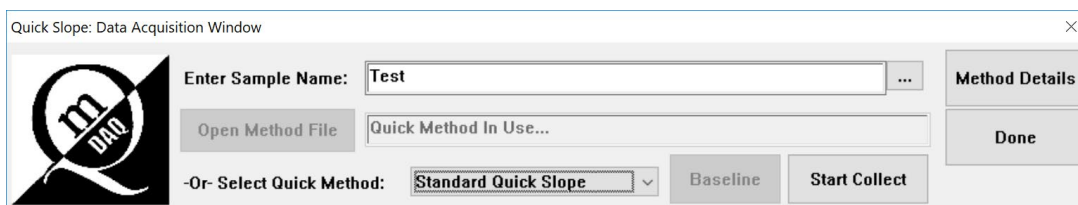

Figure 26. Data acquisition (DAQ) window.
2. DAQ View will appear (Figure 26).
The user can then specify calculations to be made with the available tokens in the Setup User Results Expression field. Expressions can be entered with the keyboard or by using the available buttons in the menu (see Figure 26). This menu is opened by clicking the ellipsis button next to User Results. The expression is then evaluated and reported with the slope measurements and other method details.